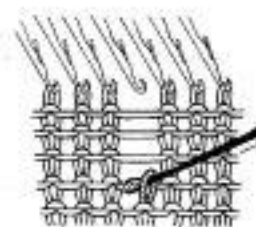

Fig. 38-3
3. Continue to pull the needle back until the strand is drawn through the loop. (Fig. 38-3 & 4)